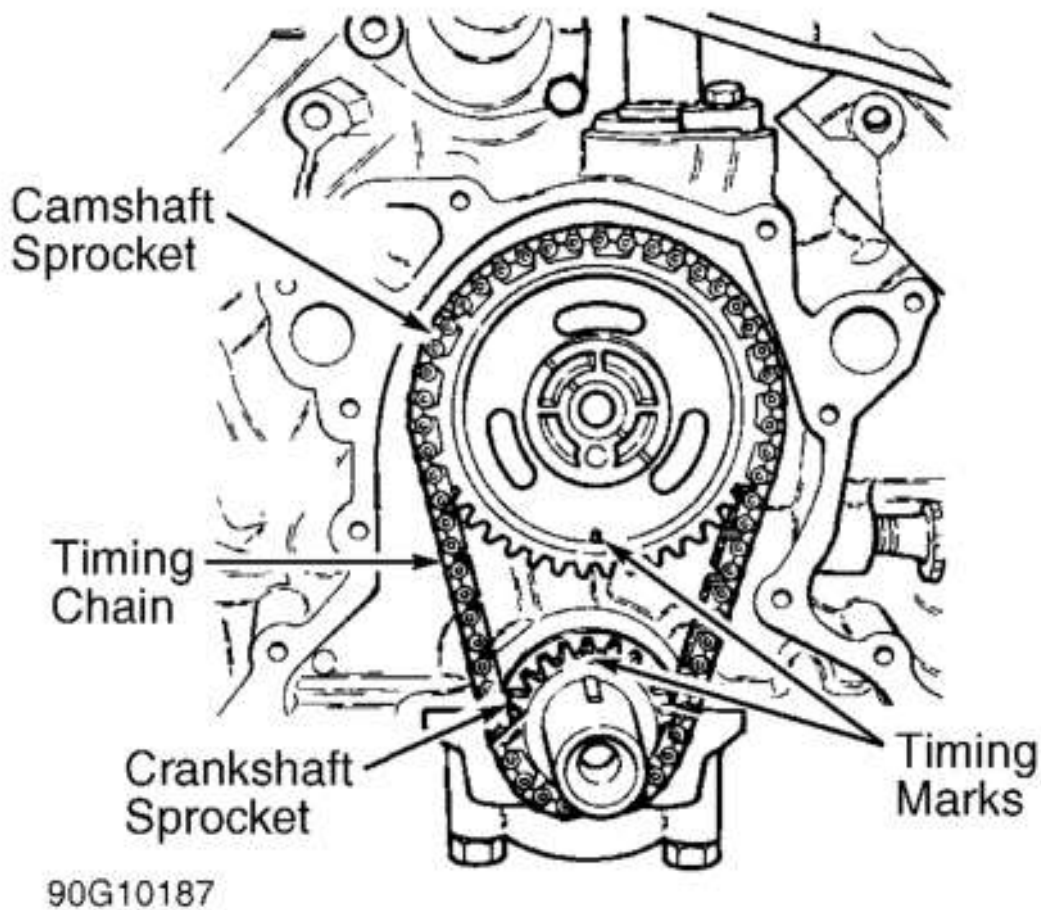

Fig. 5: Aligning Sprocket Timing Marks
1. Position No. 1 piston on TDC of compression stroke. Remove timing chain cover. See **TIMING CHAIN COVER**. Check alignment of camshaft and crankshaft sprocket timing marks. See **Fig. 5**. Check timing chain deflection.
Install crankshaft sprocket, camshaft sprocket and timing chain as an assembly. Ensure timing marks are properly aligned. See **Fig. 5**. Apply oil to timing chain and sprockets. To complete installation, reverse removal procedure. Tighten bolts and nuts to specification. See **TORQUE SPECIFICATIONS**.